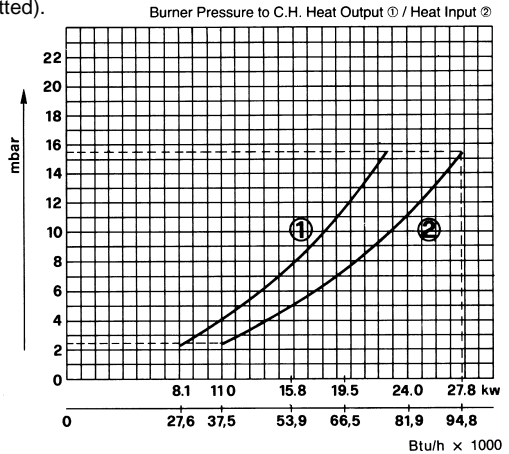

Fig. 18
4.2 **Room Thermostat** (fig. 18) (or remote time clock connection)
**Note 2** - The range of inputs with corresponding burner pressure is given on the Data badge which is situated behind the top front panel. Further informations is on (fig. 18).